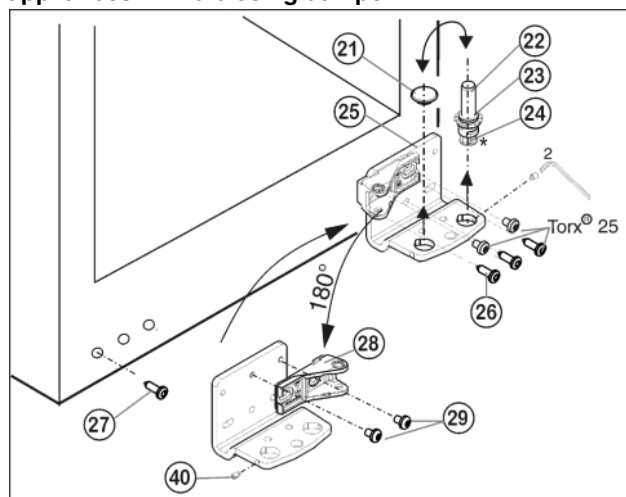

Fig. 7*
- Using the accompanying Allen key, unscrew the threaded pin Fig. 7 (40) by about 1 turn.
- Turn and lift out the bearing pin Fig. 7 (22) together with washer Fig. 7 (23) and adjustable-height foot* Fig. 7 (24).
- Lift off the stopper Fig. 7 (21).
- Unscrew the turn hinge Fig. 7 (25).
- Fully unscrew the threaded pin Fig. 7 (40) and screw it in on the opposite side, at the turn hinge, until it is flush outside with the turn hinge.
- Re-insert the stopper Fig. 7 (21) into the other hole.
- Undo the screw Fig. 7 (27) and transfer it to the opposite side.
- Screw the turn hinge Fig. 7 (25) firmly into place on the new hinge side, possibly using a cordless screwdriver (with 4 Nm).
- Re-insert the bearing pin Fig. 7 (22) together with washer and adjustable-height foot*.
- Tighten the threaded pin Fig. 7 (40).
- ▶ Place the door from above onto the lower bearing pin Fig. 7 (22).
- ▶ Align the door to the appliance housing by way of the two oblong holes in the bottom turn hinge Fig. 7 (25). To do so, unscrew the middle screw.